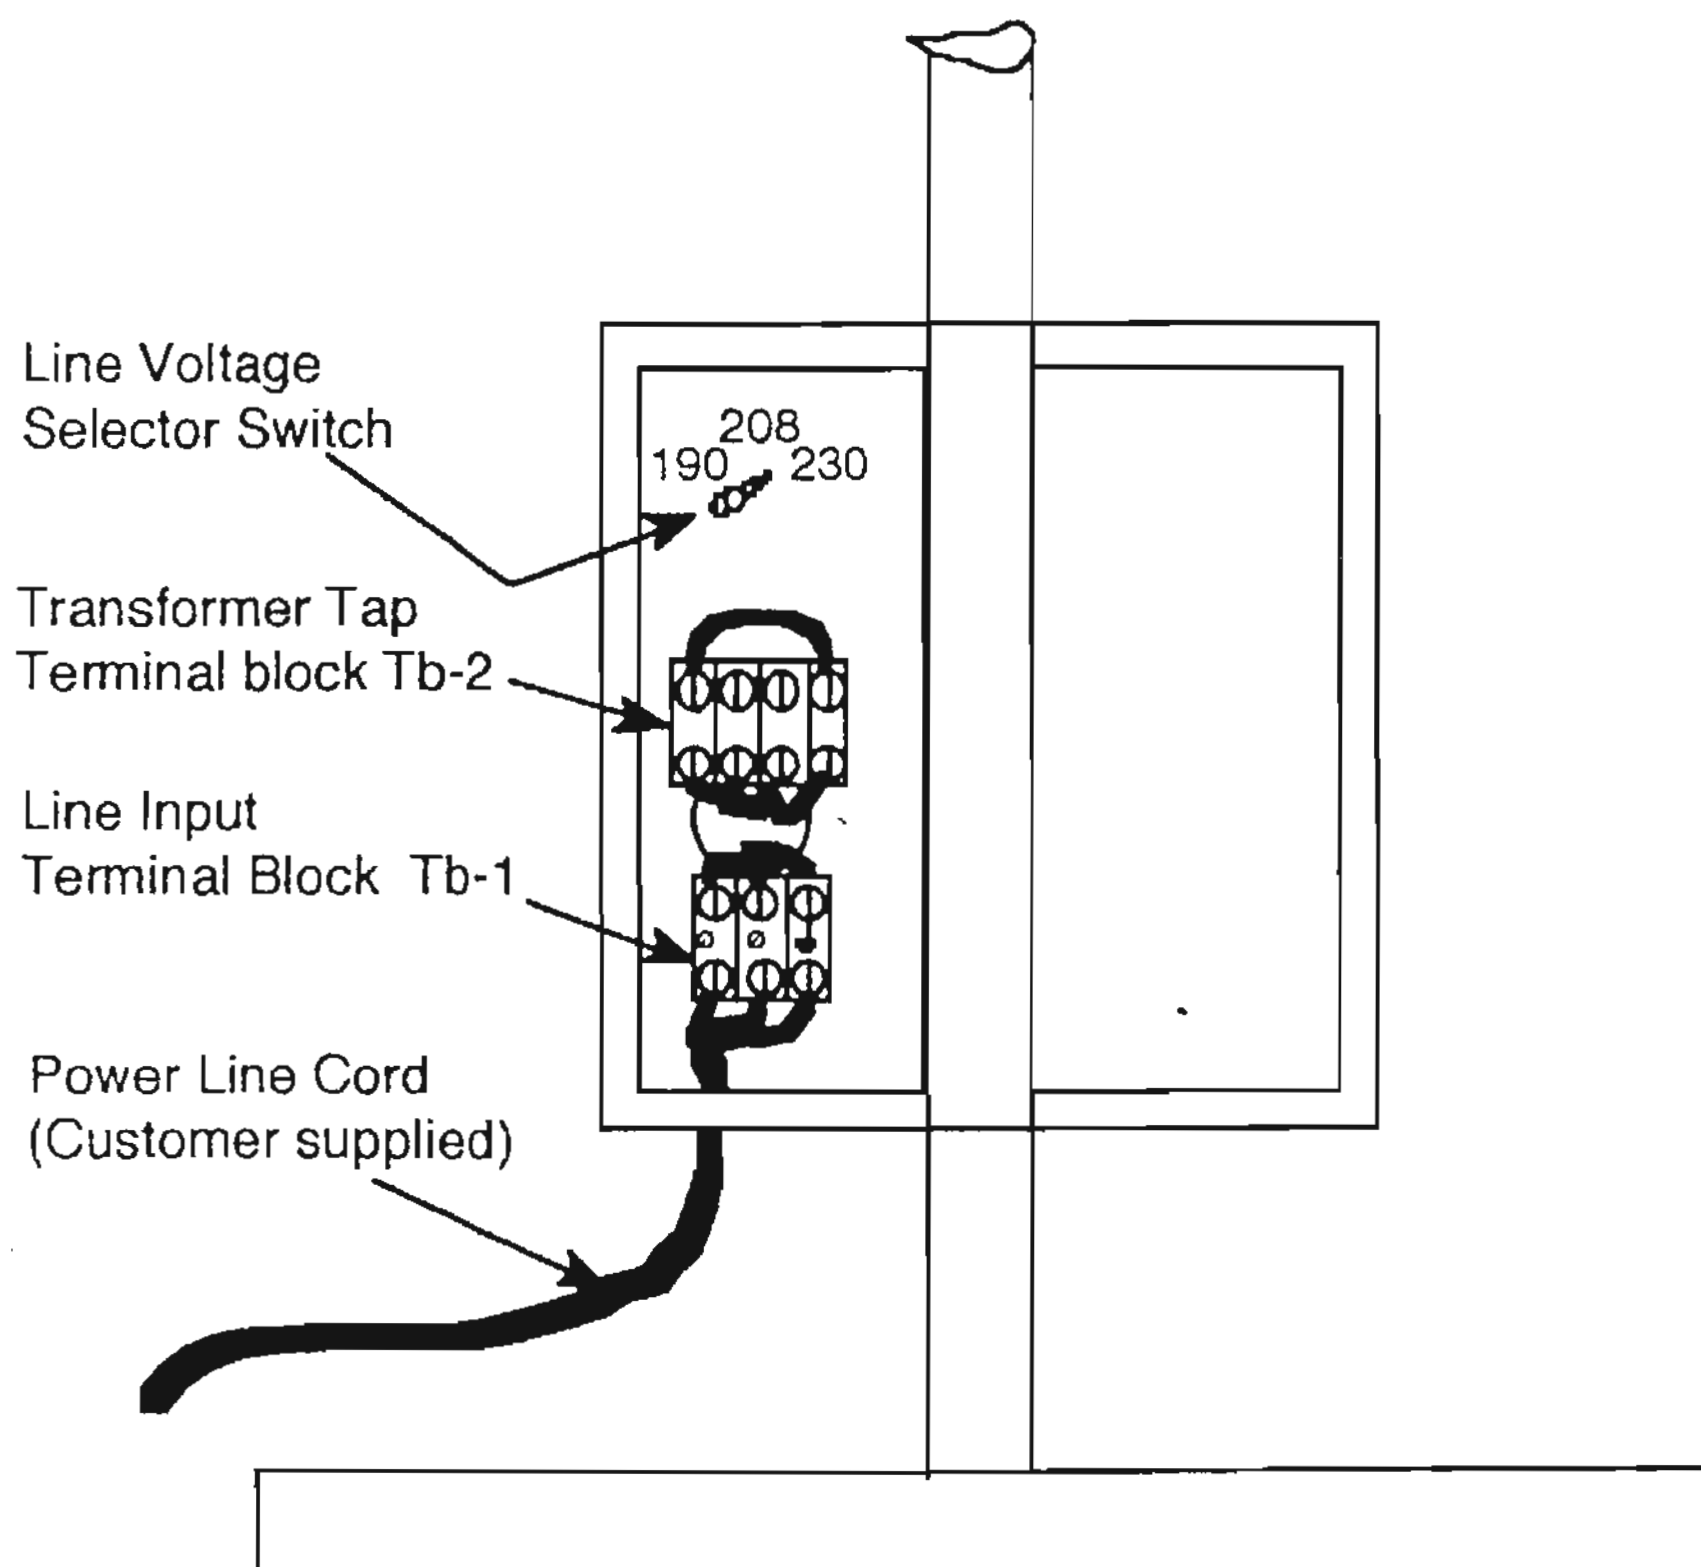

Fig 3-2
4. Refer to **Fig 3-2 & 3-3**. Move the large, black, jumper wire, on top of 4-pole terminal block Tb-2, to the voltage tap position indicated by Step 2.